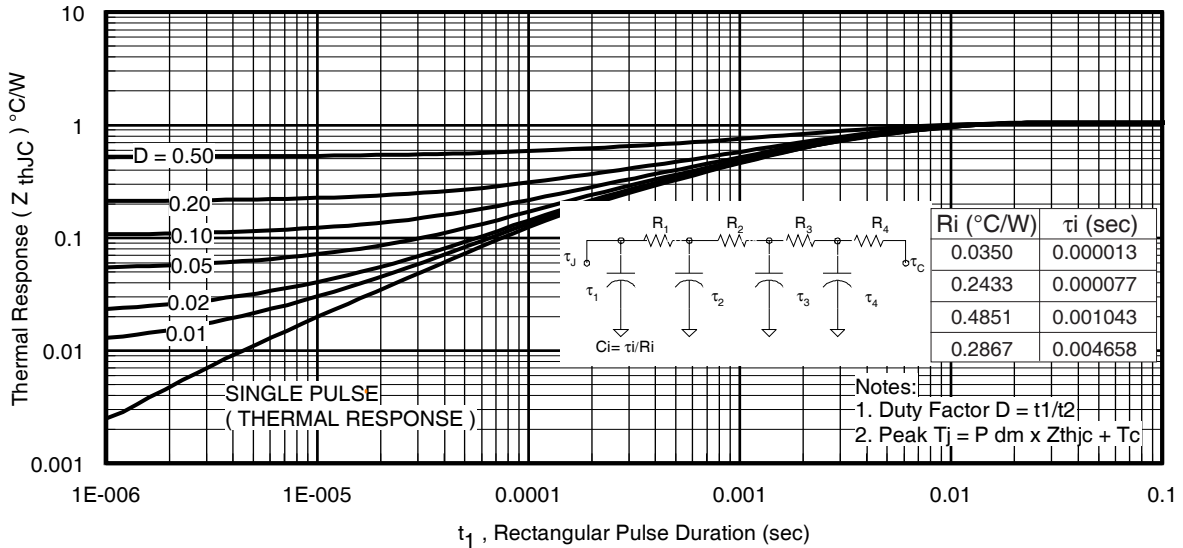

Fig 11. Maximum Effective Transient Thermal Impedance, Junction-to-Case
$Z_{thJC}(D, t_{av})$ = Transient thermal resistance, see figure 11)
- ① Repetitive rating; pulse width limited by max. junction temperature. (See fig. 11).
- ② Limited by T_{Jmax} , starting $T_J = 25^\circ\text{C}$, $L = 0.15\text{mH}$, $R_G = 25\Omega$, $I_{AS} = 42\text{A}$, $V_{GS} = 10\text{V}$. Part not recommended for use above this value.
- ③ Pulse width $\leq 1.0\text{ms}$; duty cycle $\leq 2\%$.
- ④ C_{oss} eff. is a fixed capacitance that gives the same charging time as C_{oss} while V_{DS} is rising from 0 to 80% V_{DSS} .